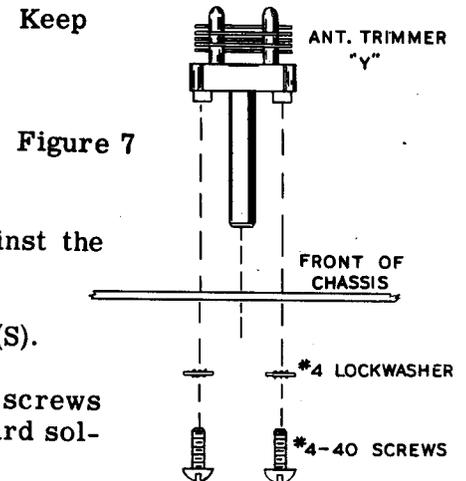

Figure 7
- () Connect a 150 μmf mica capacitor from S3 (NS) to S1 (NS). Keep the leads short to avoid future movement of the capacitor.
- () Connect a bare wire from S1 (S) to C4 (S).
- () Connect a bare wire from S2 (S) to C2 (NS).
- () Connect a wire from C2 (S) to W2 (S). Run this wire against the chassis.
- () Connect a 33 μmf ceramic capacitor between C1 (S) and S3 (S).
- () Mount the small antenna trimmer capacitor at Y using 4-40 screws and lockwashers. Position as shown. Bend lug 1 down toward solder lug FF so it touches the solder lug (NS). See Figure 7.